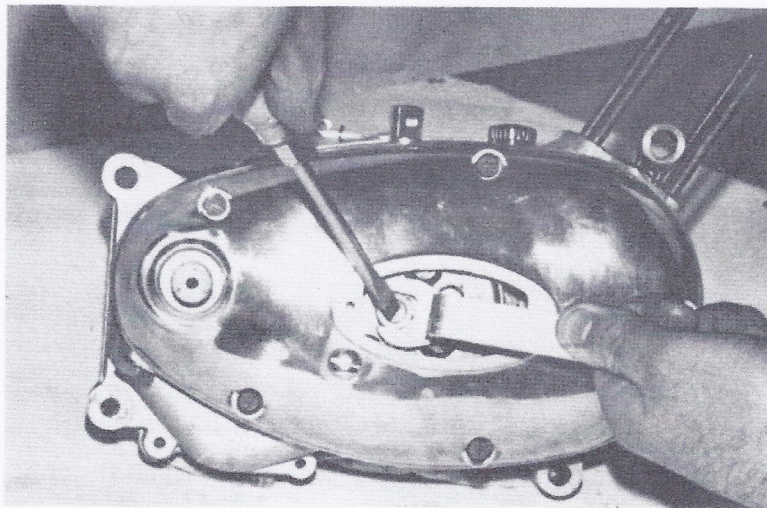

FIGURE 16
- 8) Introduce the clutch rod, entering the rounded end into the hole of the primary shaft first, then, introduce the 3/16" steel ball and, finally, the disk thrusting point. Replace the clutch disks in their correct order; when assembling the four springs, fit them into the opposite clutch screws on the side with the smallest hole diameter; then, screw completely and in an evenly way the four clutch screws; lastly, check that the clutch lever play is about 3 mm. that is measured in the wire connection position. The adjustment will be obtained with the adjusting screw and nut that is placed on the terminal clutch disk, using the special wrench U2-11 (see figure 16).